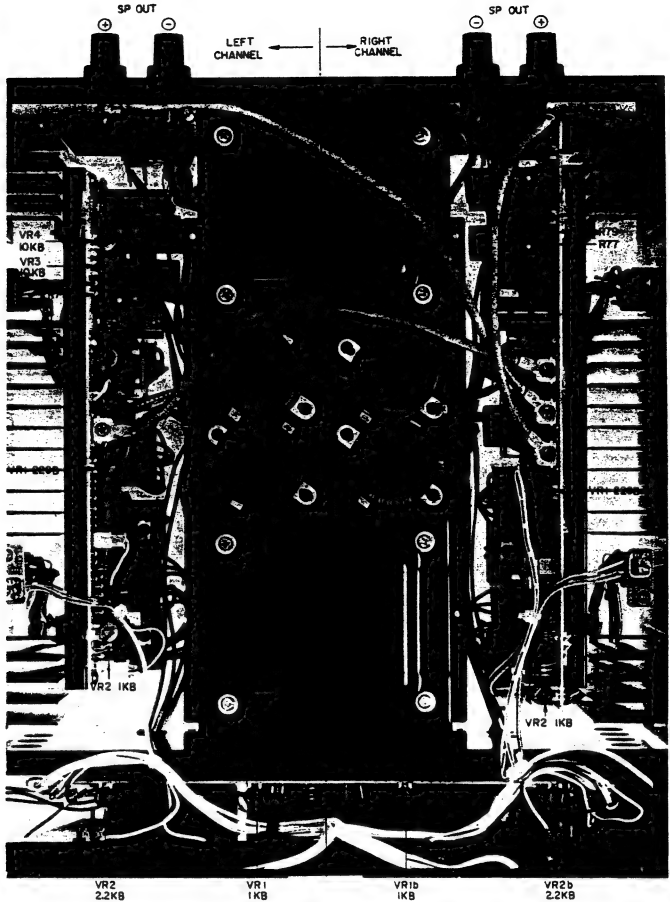

Fig. 23 Adjustment Point
2. MODEL PS-120M (Refer to Figs. 23, 24)
3. MODEL PS-200M (Refer to Figs. 23, 24)